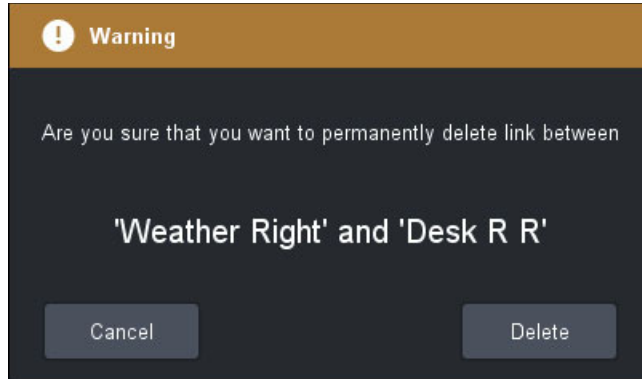

Figure 54 - Warning Message to Confirm the Deletion of a Link
- › **Delete Link** — Opens a **Warning** dialog box that prompts you to confirm the deletion request (Figure 54). To confirm the deletion request, click **Delete**.